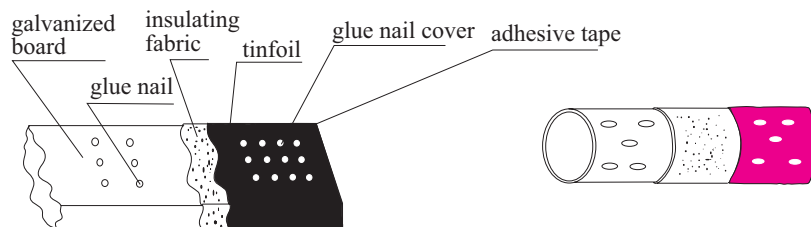

Fig3
- Insulation layer is needed for air supply and return duct. First, paste a glue nail to the air duct, and then attach the insulation cotton that has a tinfoil layer and use the glue nail cover to fix. Finally, seal the air duct interface with tinfoil adhesive tape closely. as shown in Fig3.